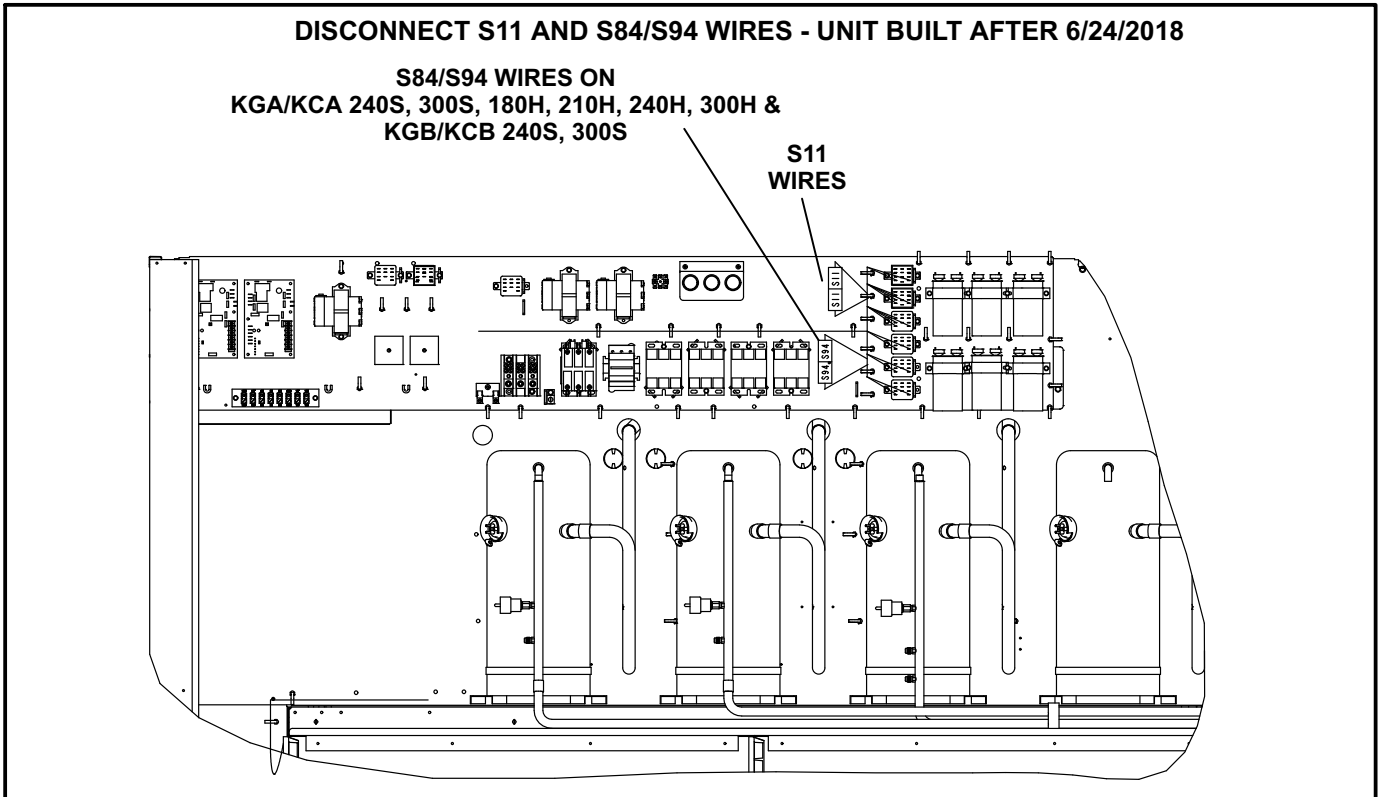

FIGURE 5
- 1- Disconnect unit wires marked S11 and S84/S94 as shown in figure 5.